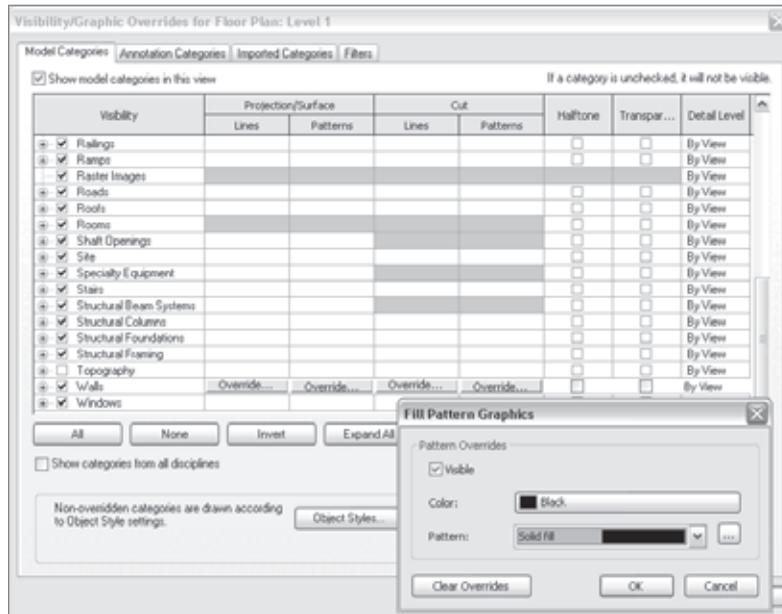

Figure 8.17
1. Open the Visibility/Graphic Overrides dialog box from the View tab's Graphics panel. Click the Annotations tab, and deselect the check box Show Annotation Categories in This View (see Figure 8.17). This hides all annotations with a single click.